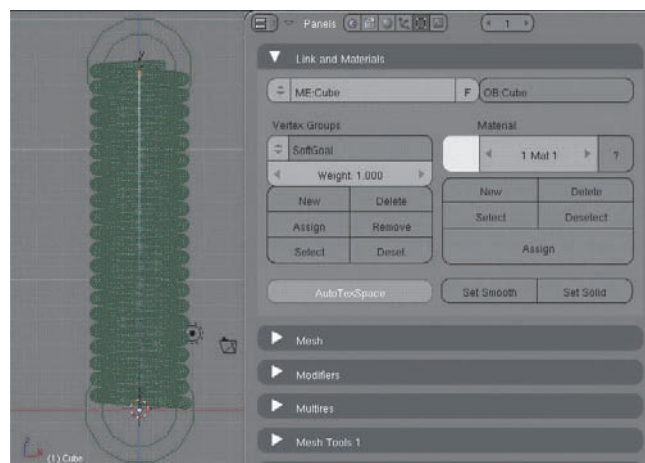

Figure 3.11 Assign the top vertex to the SoftGoal vertex group.
6. Now it's time to set up the soft body object. A common way to control soft bodies is by use of a vertex group and a *goal*. When this option is used, vertices that have a high weight for the group are fixed in place to the mesh's ordinary shape (including any non-soft-body deformations), and are not influenced by the soft body simulation. Vertices with a low goal weight are freer to move around in accordance with the soft body simulation. The mesh object in this example has only two vertices. You will use a goal vertex group to nail the top vertex in place, while allowing the bottom vertex to exhibit soft body behavior. To do this, select the mesh object and enter Edit mode. In the Links and Materials tab, under Vertex Groups, click New. Type **SoftGoal** in the name field of the new vertex group. Now select the top vertex of the mesh, as shown in Figure 3.11, and click Assign. The default weight assignment value is 1, so this will assign a 1 value to this vertex.